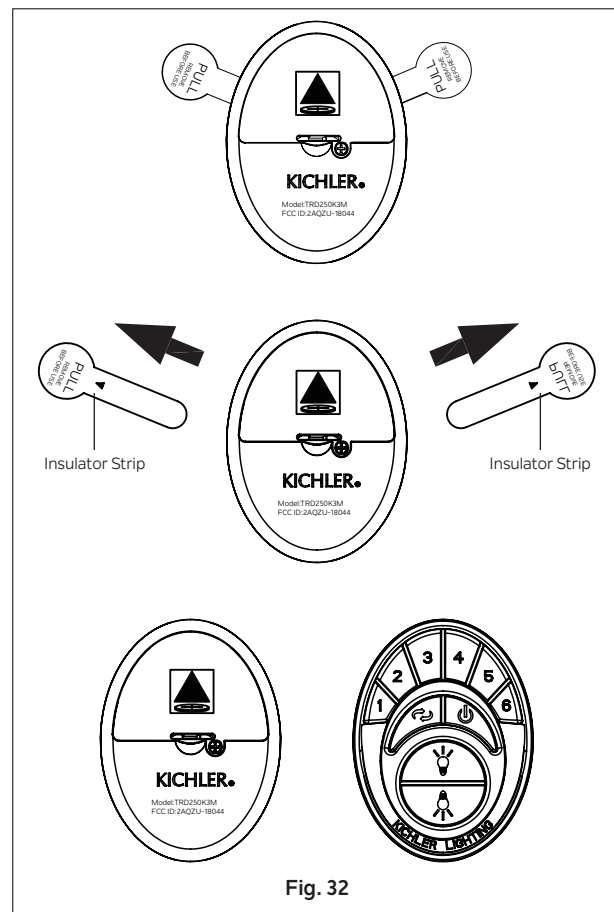

Fig. 32
Step 1. To activate the transmitter, carefully pull the insulator strips out of the transmitter to activate the two preinstalled CR2032 3V button/coin cell batteries. Discard insulator strips. (Fig. 32)